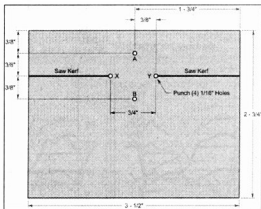

Figure 3. The template for marking the tube ends should look like this (not to scale).
1. Lay out the 3.5 by 3.5 inch card stock template (shown in Figure 3) for accurate hole locations. Then punch a small hole at each hole location shown.
4. Saw a 1/16 inch wide kerf around the long path from hole X to hole Y as shown in the photos and Figure 3. To get the saw kerf this wide, mount two 18 teeth per inch hacksaw blades in a hacksaw frame, together. Use a couple of wraps of electrical tape near the mounting holes to keep the blades together.